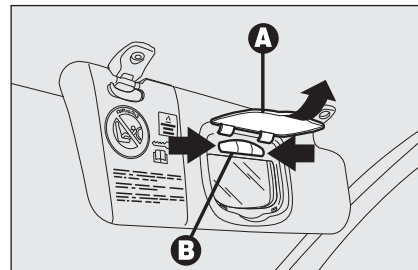

fig. 46
- open the mirror cover **A-fig. 46**;